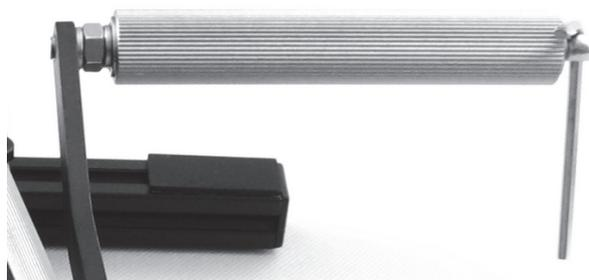

Fig. 2.17.
- 7.2. Drive support shaft screw into the force lever hole and tighten it using hex tool (fig. 2.17) or screwdriver.